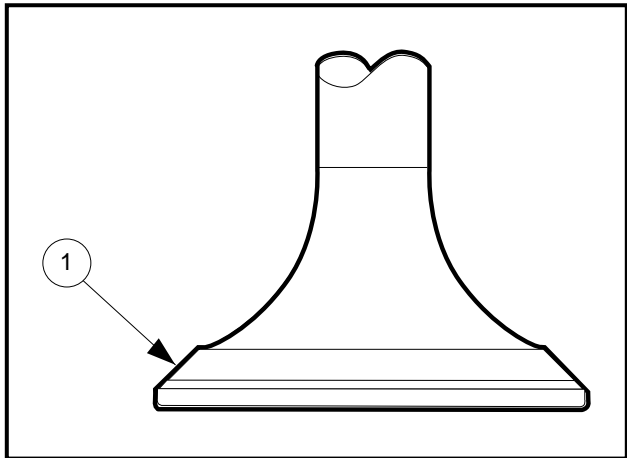

Figure 13-28 Valve Head Seating Area
1. Inspect the valve head seating area (1) for erosion, nicks and warping, etc. (**Figure 13-28, Page 13-16**). See following NOTE.